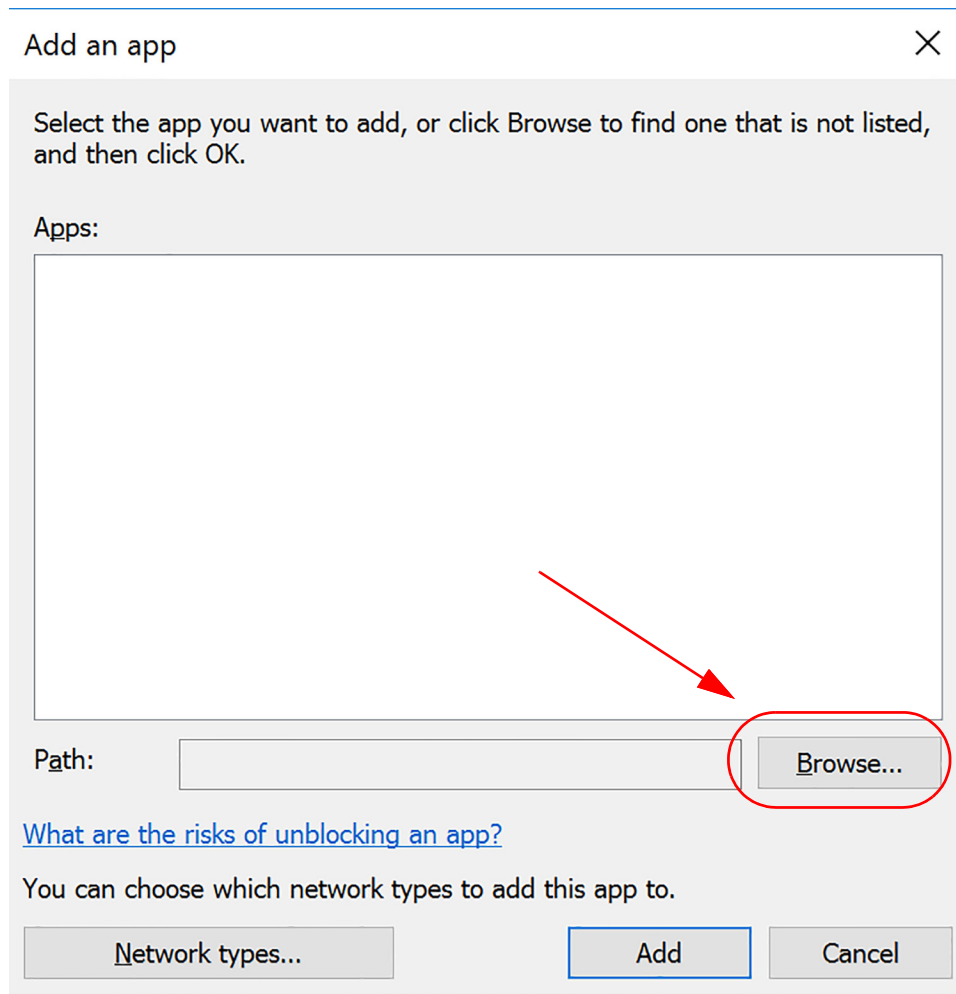

Figure 2.6: Windows Server 2016/2019: Add an App
6. From the “Add an app” screen, select the Browse button. See Figure 2.6.